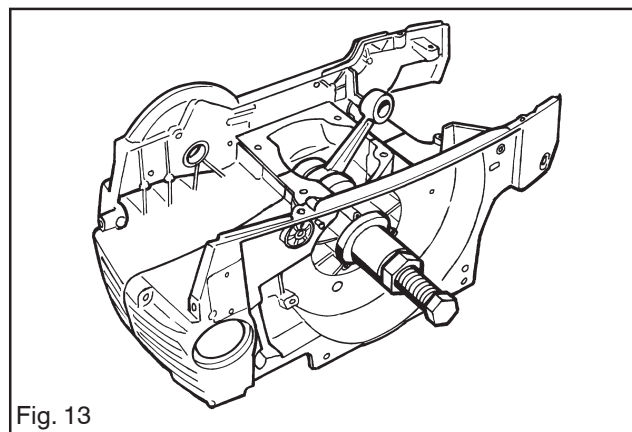

Fig. 13
5. Use tool (Refer to "3 Service tools" on page 8, Pos. 20) and pull on the crankcase half of the fly-wheel side. Pull until the gasket is clamped between the crankcase halves. See fig. 13.